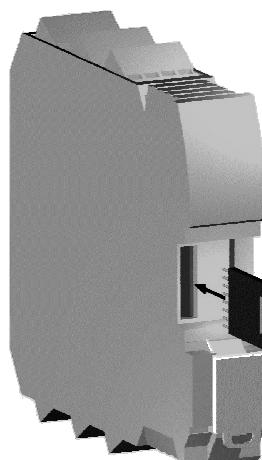
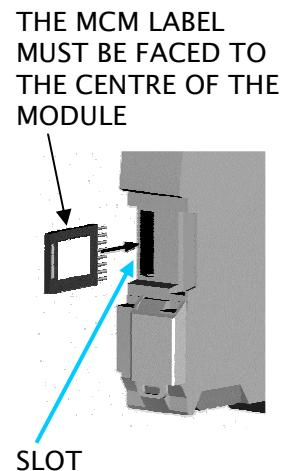

Figure 2
Figure 3
- Insertion of the MCM card inside the M1 module must be performed as Figure 2 and Figure 3 show. If insertion is not correct the memory will not be damaged and not detected by the system; refer to the MOSAIC technical manual "SIGNALS" paragraph to check the leds that light on when MCM is read.